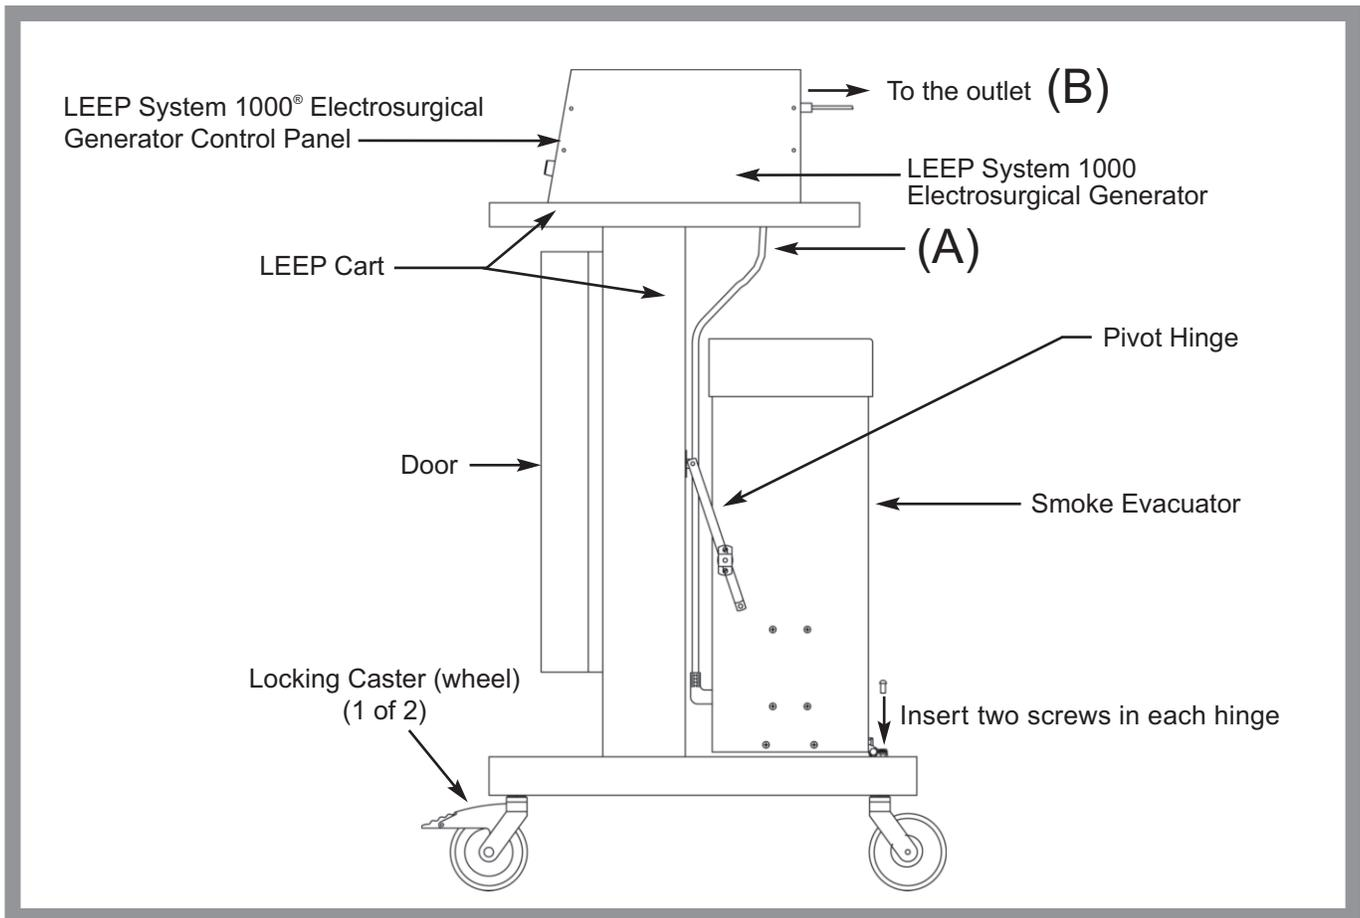

Figure 1
3. Remove the screws on the side of the Smoke Evacuator and then fasten down the bracket of the drop hinge to the Smoke Evacuator. See Figure 1.
After unpacking the Electrosurgical Generator box, align the pins on the bottom of the Electrosurgical Generator with the corresponding holes located on the top of the Cart. See Figure 1.
1. Plug in the cord running from the Electrosurgical Generator to the receptacle at the back of the Smoke Evacuator [refer to (A) in Figure 1].
2. **Make sure both On/Off Switches on the Electrosurgical Generator panel are in the OFF position.** Refer to **1** and **12** in Figure 2. Next, attach the power cord to the receptacle at the back of the Electrosurgical Generator and then into a hospital-grade grounded wall outlet to obtain power [refer to (B) in Figure 1].